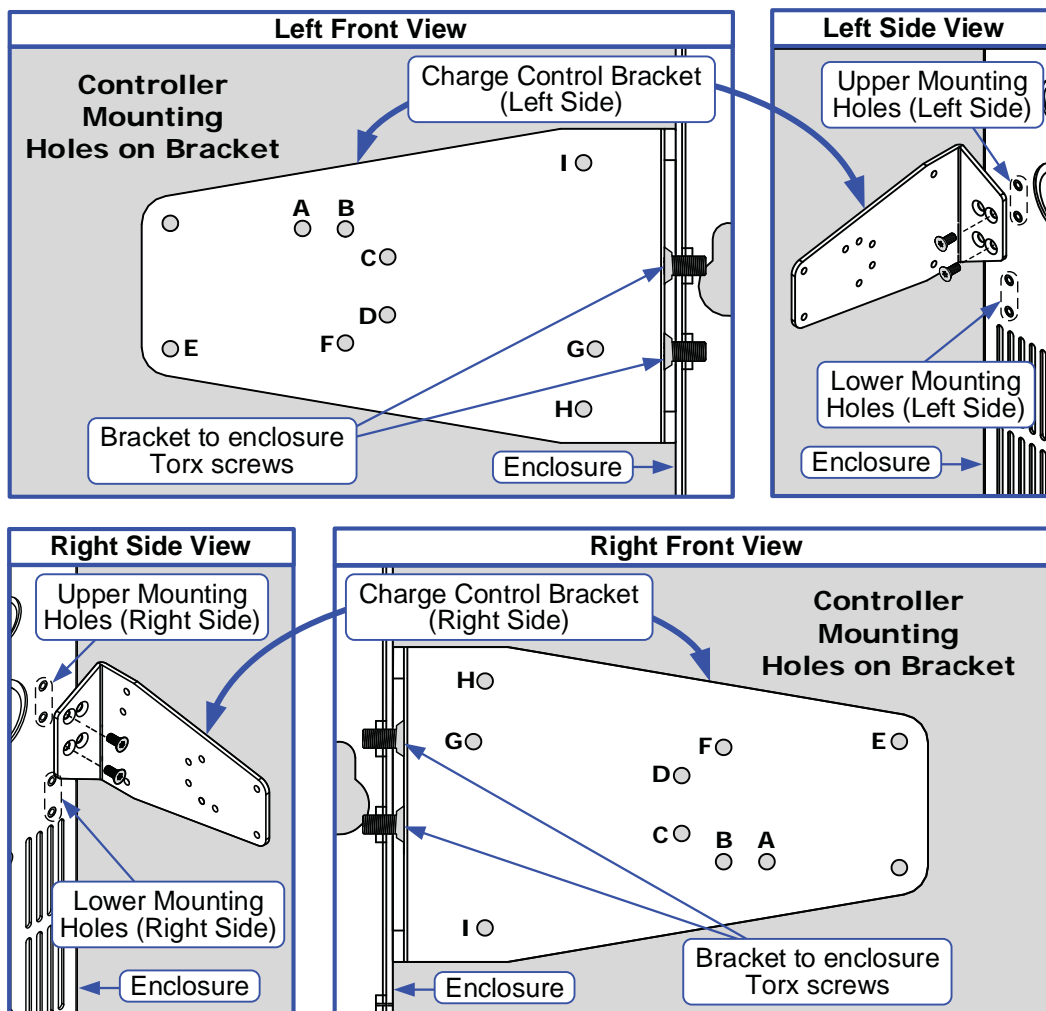

Figure 2, Mounting Holes
- which bracket hole(s) (A-I) to use to mount the charge controller (see Figure 2).
Refer to Figure 2 to locate the holes you will use to attach the bracket to the enclosure and to mount the controller to the bracket. Use the provided thread forming screws (T20 Torx drive) to pre-thread the selected mounting holes. It is easier to do this now rather than after it is installed.